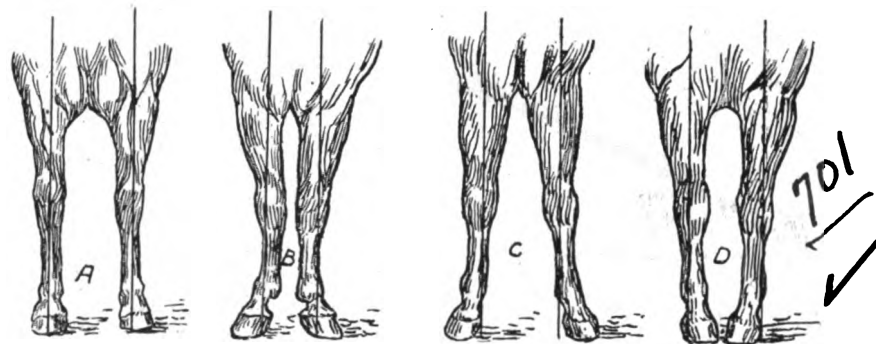

FIG. 2.—THE POSITION OF THE LIMBS MUST BE OBSERVED CLOSELY FROM THE FRONT
front. Fig. 2 shows the fore limbs, when viewed from the front, to be in the regular or normal position of shape,
i. e., a line dropped from the shoulder passes down the center of the limb and equally divides it and also the foot. At B in Fig 2 is shown a knock-kneed position of the fore limbs. Here the knees are shown in too close proximity, while the feet are apparently in normal position, though the bend at the knees twists the foot so that the toes point outward and away from each other instead of directly forward. At C is shown practically the same foot position though the limb position is much different. Here, the limbs while apparently straight, fall downward and outward from the body describing part of the letter **A**, instead of the straight limbed **H**, as the example at A, Fig. 2. The position of the fore limbs at D, Fig. 2, shows a toe narrow condition of the limbs. This position of the fore limbs is often encountered in wide-chested horses. The limbs fall from the body just the reverse of the position illustrated in C. The foot position is also reversed—the toes pointing toward each other because of the twist in the limb. There are also other limb positions which produce the foot narrow